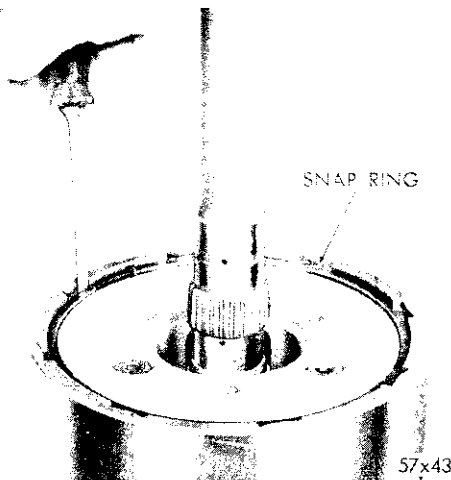

Fig. 23—Removing Kickdown Planet Pinion Carrier Housing Snap Ring
(1) Using a feeler gauge, check clearance between the planet pinion carrier housing snap ring and kickdown planet carrier assembly. This clearance should be from .010 to .021 inch. Snap rings are available in the following thicknesses: .062-.064, .072-.074, and .082-.084 inch. If this selection of snap rings fails to provide the necessary clearance, use one of the kickdown sun gear snap rings (part number 1327729) which will permit a minimum of .058-.060 inch.
(2) Using a screwdriver, remove the planet pinion carrier housing snap ring (Fig. 23). Identify snap ring to aid in reassembly.